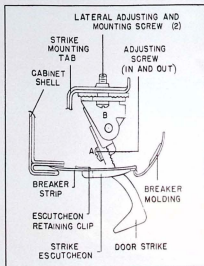

FIGURE 3 — Door Strike
3. The three adjusting screws shown in Figure 3 are accessible after the escutcheon is removed.